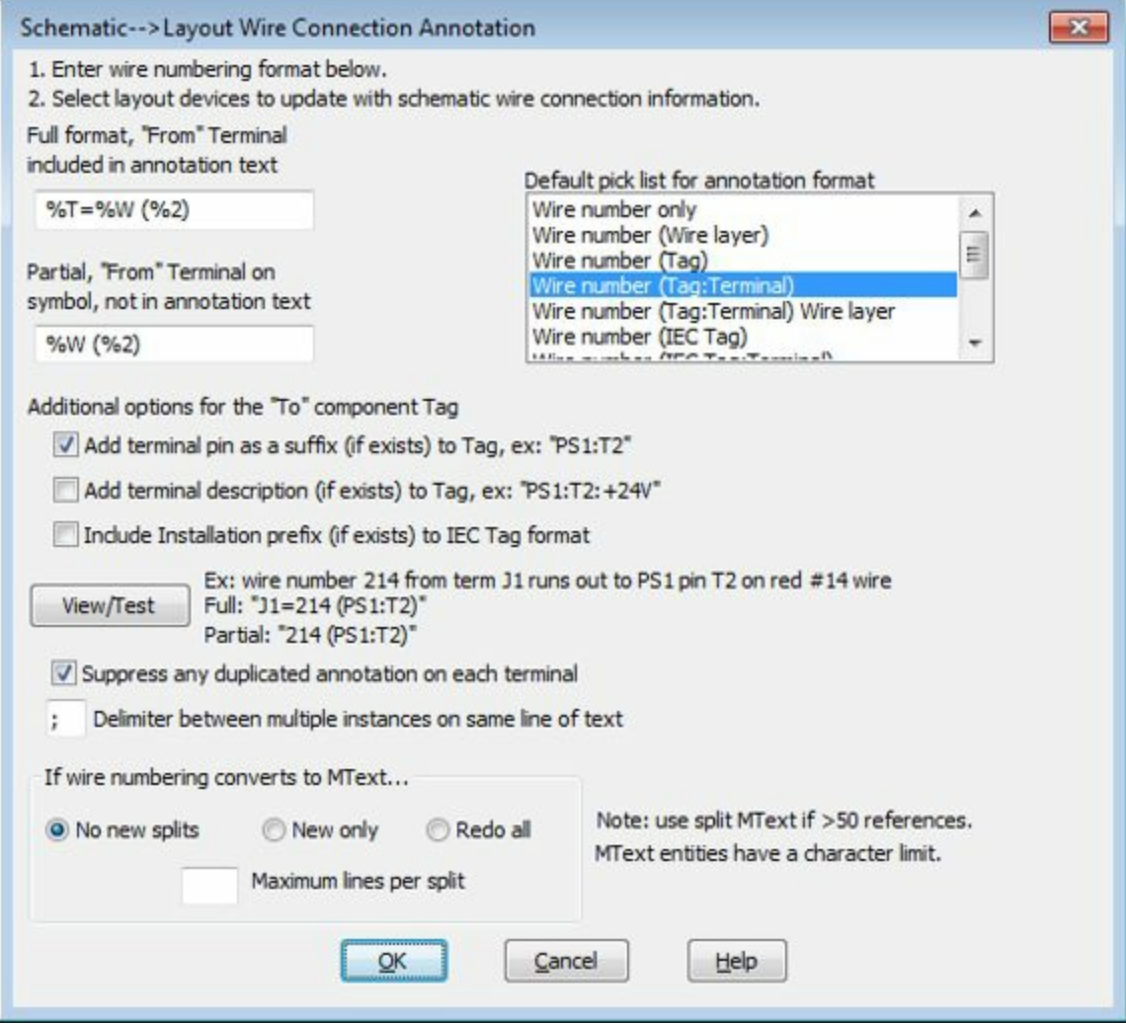

Figure-20. Schematic dialog box
- After specifying the desired settings, click on the **OK** button from the dialog box. The **Schematic --> Layout Wire Connection Annotation** dialog box will be displayed; refer to Figure-20.